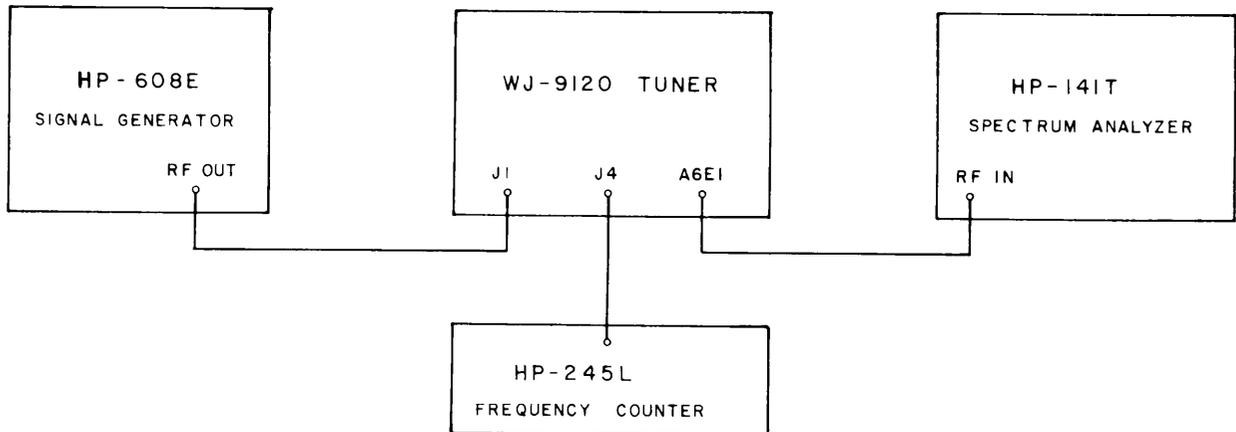

Figure 4-18. Equipment Connection, 10 MHz Trap Adjustment
- (1) Connect power for high band operation (Figure 4-3) and connect the test equipment as illustrated in Figure 4-18.